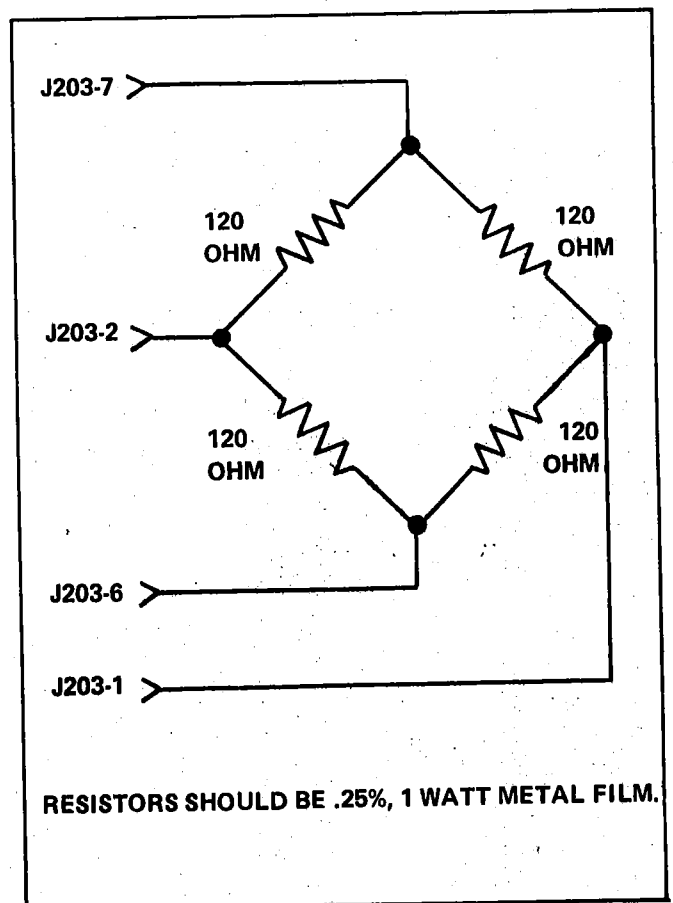

FIGURE 5-2 INPUT BRIDGE
3. Connect a 4-arm 120 Ohm bridge to the amplifier as shown in Figure 5-2.